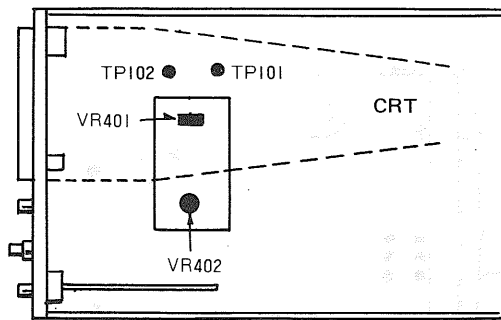

Fig. 40
Variable DC BAL Adjustment (see Fig. 40):
2. Short the test terminals TP101 and TP102 on the lower printed circuit board. (see Fig. 40)